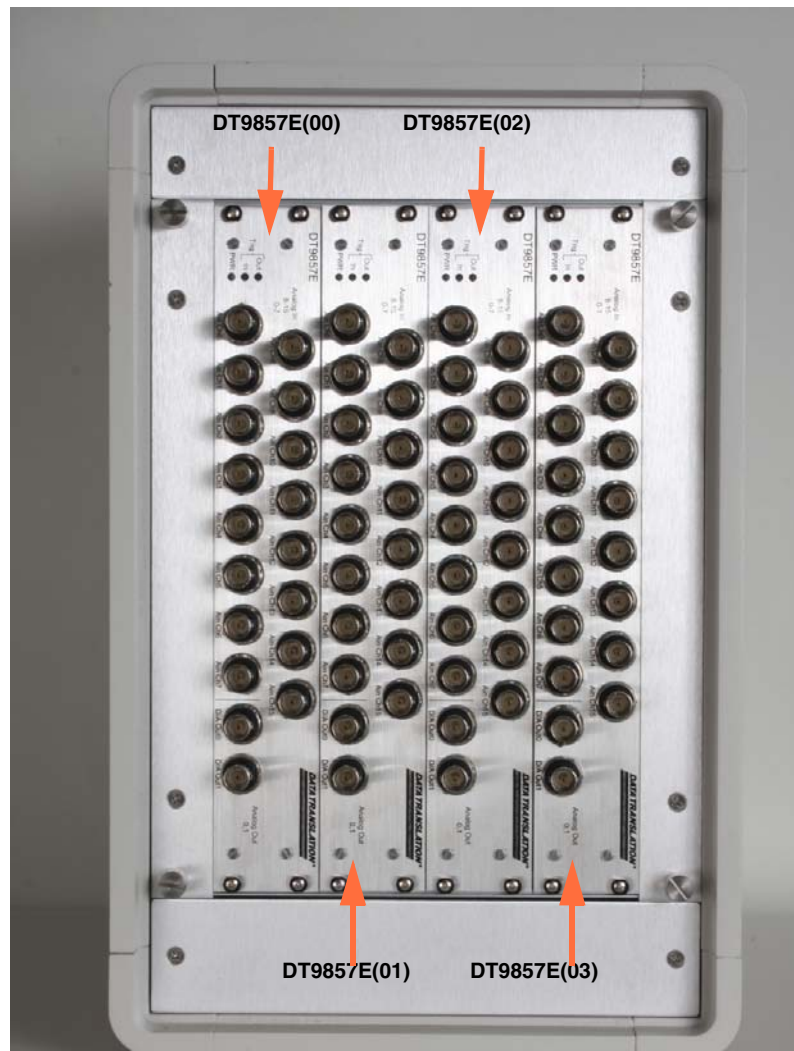
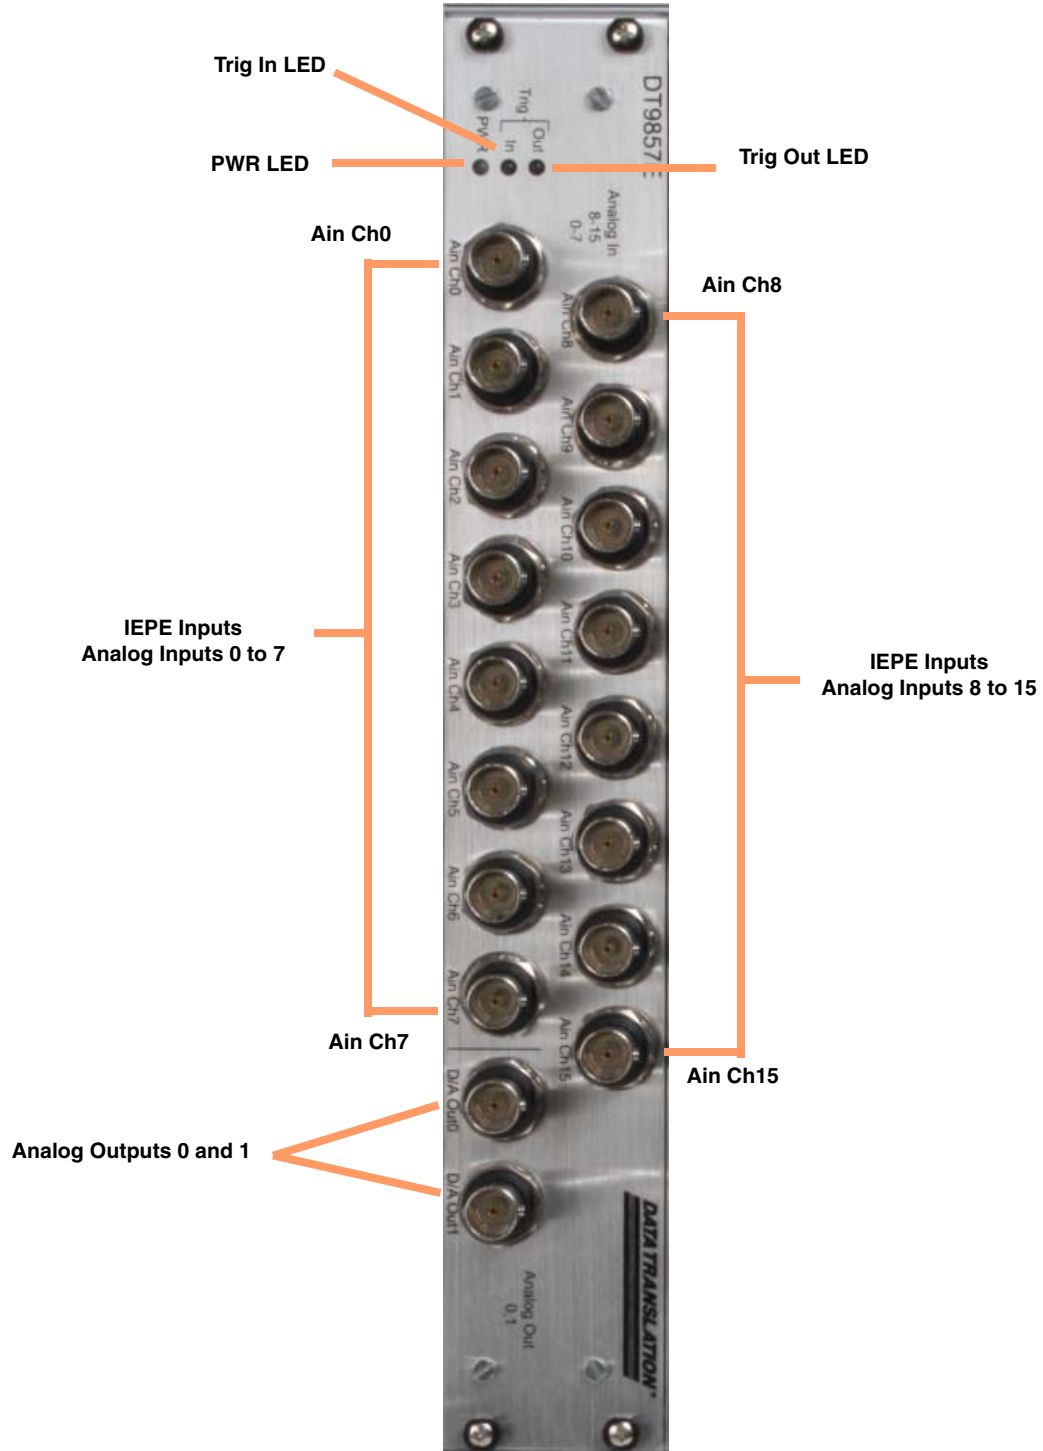

Figure 7: VIBbox Naming
Figure 8: Vibbox Channel Numbering
- DT9857E(00) - This is module in the left-most slot, as shown in Figure 7. Analog input channels are numbered 0 to 15. Analog output channels are numbered 0 and 1. See Figure 8 to see how the channels are numbered on each module in the enclosure.
- Click the **Identify Device** button to turn the Power LED on the front of the module amber, helping you identify which module you are configuring. Figure 8 on page 32 shows the Power LED on a DT9857E module.